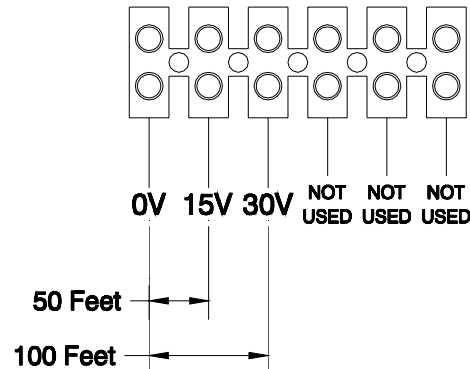

Figure 12. Temperature Control Transformer Schematic
1. Set the tap on the Low Voltage Power Pack in accordance to Figure 12.